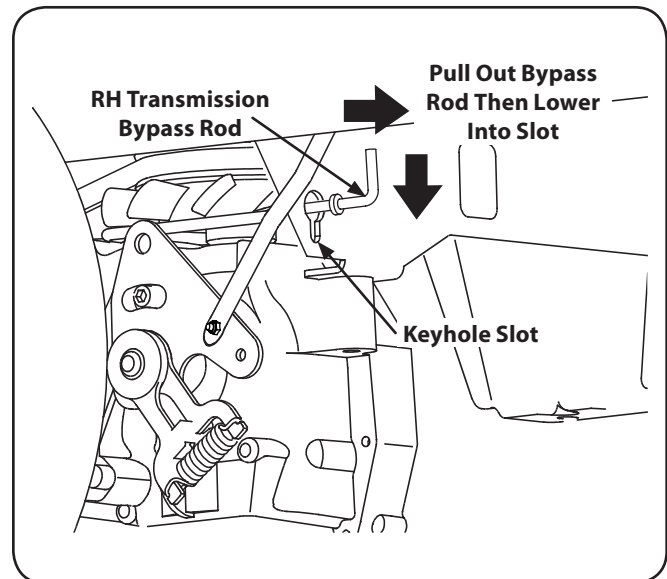

Figure 6-2
- From just in front of the two rear tires, locate the transmission bypass rods. Refer to Fig. 6-2.